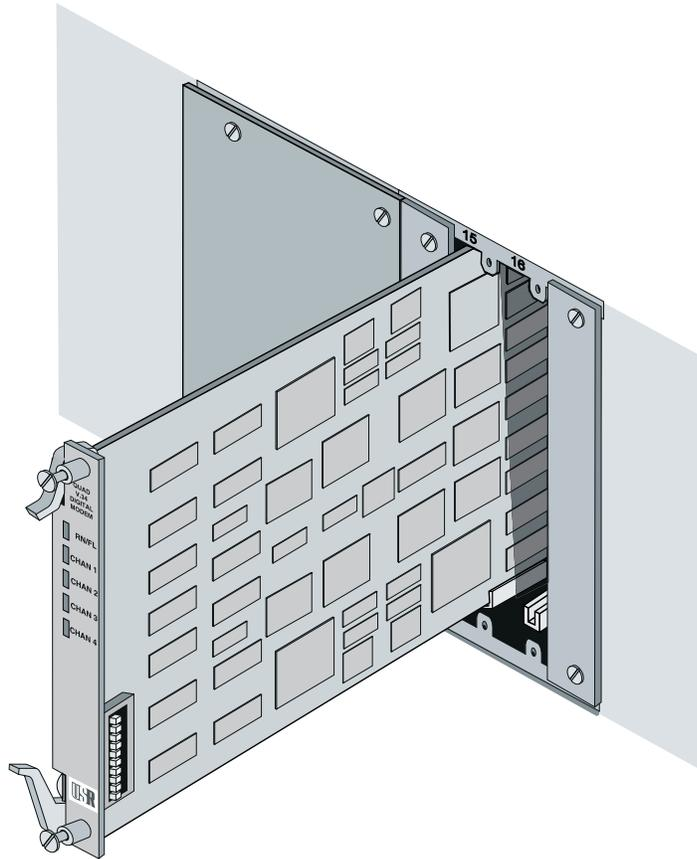

Figure 32. Inserting a Network Application Card
- 2** Insert the NAC in the upper and lower plastic card guides of the chosen slot, connector first, and LEDs facing the front. Slide the board inward until its connector is firmly plugged into the midplane. The front panel should be flush with the front face of the chassis. See Figure 32.